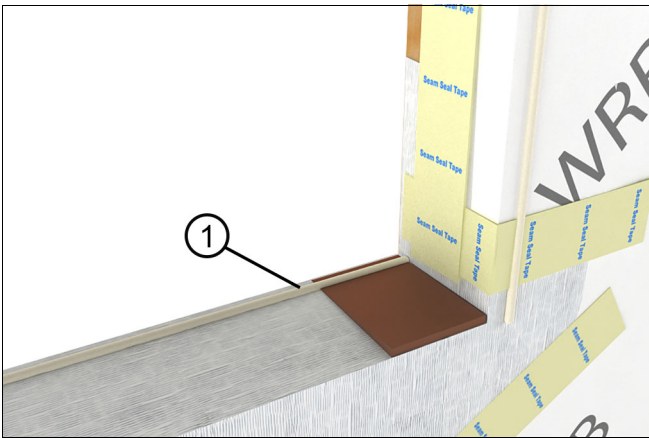

Figure 12
3. Place a bead of sealant 1/4"- 3/8" from interior edge of the RO sill. See Figure 12.